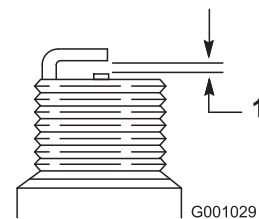

Figure 47
- Set the gap between the electrodes on a new spark plug at 0.76 mm (0.030 inch) as shown in Figure 47.